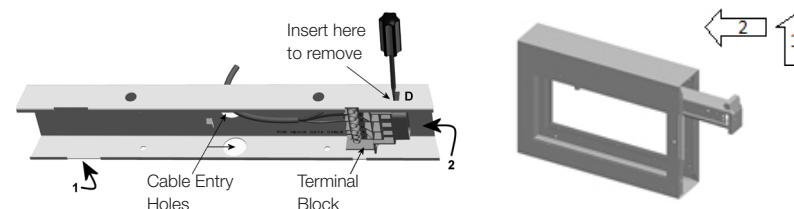

Figure 4: Frame insertion diagram
5. Remove the unit from the bracket by gently inserting a small screwdriver into the slot (at 'D' in figure 4) on the front of the bracket towards the right hand end of the fitting to ease the locking tab into the fitting and away from the bracket. The unit is then free to slide to the right along the bracket for about 50mm, at which time the slots line up and it can be lowered away from the bracket, allowing the two to separate.
8. Fit the LED lamp (carefully follow the instruction label on top of the unit) and attach the unit to the mounting bracket by aligning the top left hand end of the unit (the end without the protruding electrical connecting metal lugs) with the large cut-away slot towards the left hand end of the bracket. Slip the left hand end of the unit up into the slot in the left hand end of the bracket (step (1) in figure 4) and hold the unit horizontal to and parallel with the bracket. It should be approximately 50mm to the right of its final destination. Simply slide the unit (step (2) in figure 4) 50mm to the left along and into the bracket to engage the connection and the locking tab. Once in place, the unit cannot be removed from the bracket without the use of a tool (a small screwdriver) to push in the locking tab at 'D' in figure 4.